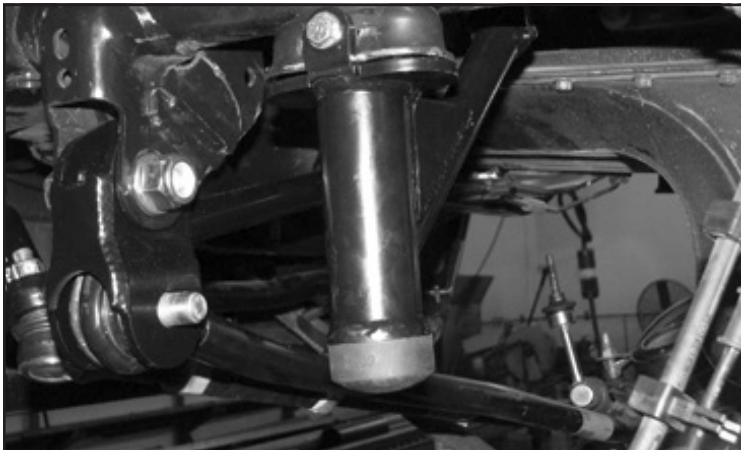

FIGURE 21 - STEP 28
28. Locate the FTS88 bump stop pad and thread it into the bottom of the Fabtech bump stop. **SEE FIGURE 21**